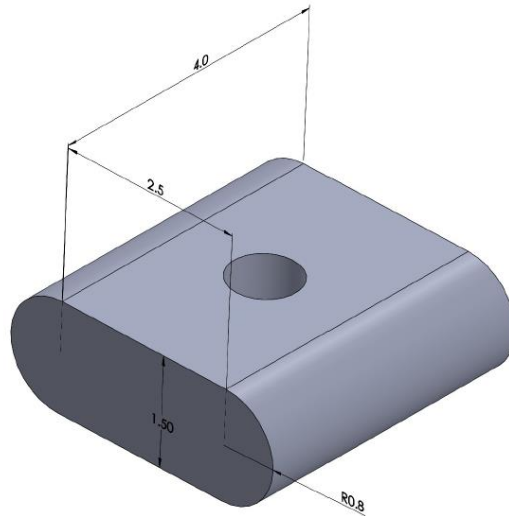

Figure 9. Loading Block Dimensions
5.3.2. Loading Block. Block dimensions are 4 inches by 4.1 inches by 1.5 inches (L x W x H), as shown in Figure 9.